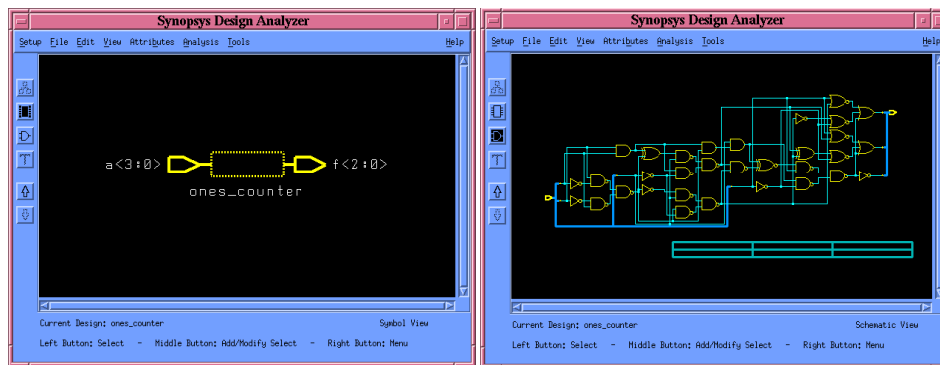

Fig. 4: Symbolic and schematic views
9. Check your design by selecting Analysis \Rightarrow Check Design menu. If a value of 1 is returned it means that the design check command executed successfully and that there were no errors in the design. Most warnings can usually be ignored. Design Analyzer user interface allows one to navigate up and down through the design hierarchy. It is also possible to switch between symbol and schematic views (see Fig. 4).